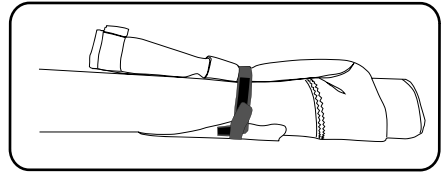

Figure 9: After rolling, tuck the pad, then wrap with the tack strap and secure the velcro.
- After rolling the sail, tuck the pad so it rests along the sail, wrap the tack strap around the pad and the sail, then attach the velcro (figure 9).